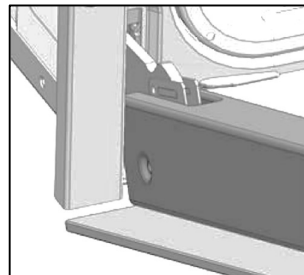

Figure 9
- Hold the door as shown (Figure 9)